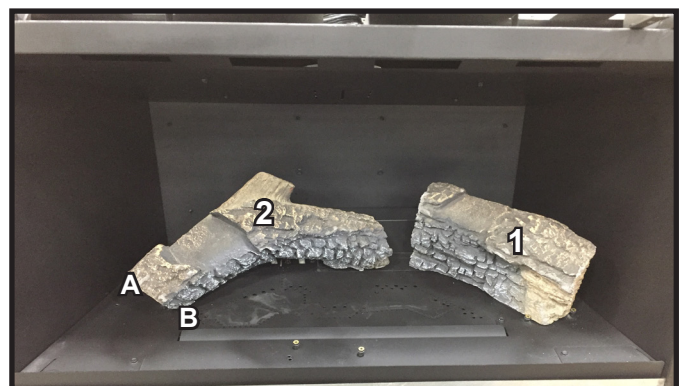

Figure 4 Log #2 Installed
**LOG #2:** Place the pilot hood cutout of Log #2 over the pilot hood. The back side of the left end of the log will sit on the basepan against log pin A. The front edge of the log will sit on top of log pin B. Ensure that the right end of the log is pushed back against the air scoop. See Figure 4.